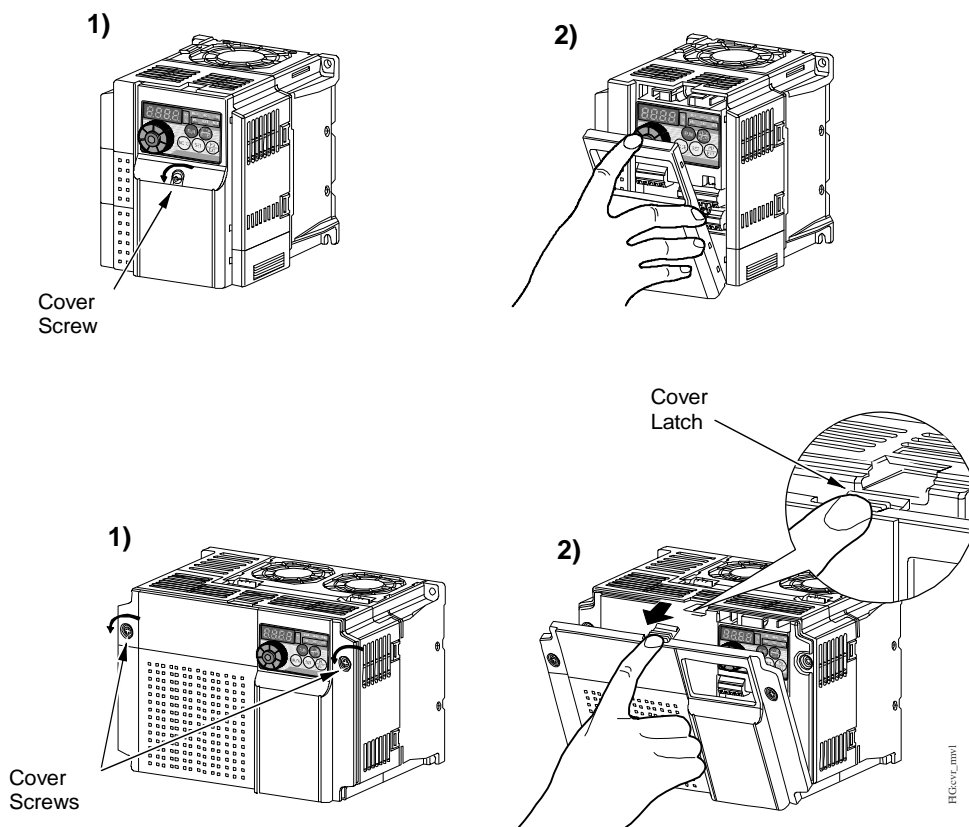

Figure 9: Loosen the Cover Screws and Remove the Front Cover
1. Loosen the screws on the front cover and remove the cover to access the low-voltage wiring (Figure 9).
- Loosen the screws on the front cover and remove the cover to access the low voltage wiring (Figure 9 on page 17).